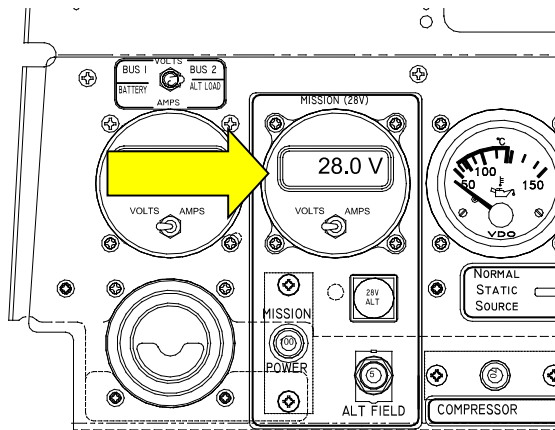

Figure 1
9. Observe the volt meter (Figure 1) over a range of RPM between 850 and 2500. Confirm that a stable 28V indication is present and that neither the ref or amber LED on the meter is illuminated.